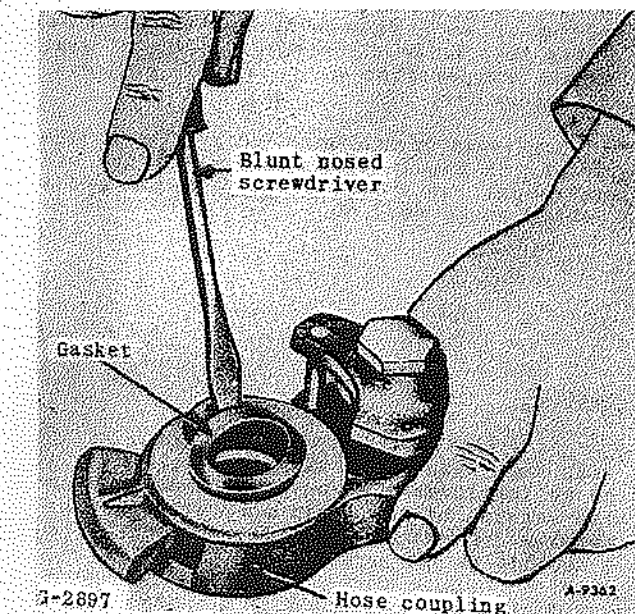

Fig. 4 - Trailer Brake Coupling
5. Then use a blunt nosed screwdriver or similar instrument to push the gasket into place (Fig. 4). When properly installed, the exposed face of the gasket will be flat, not twisted or bulged at any point.